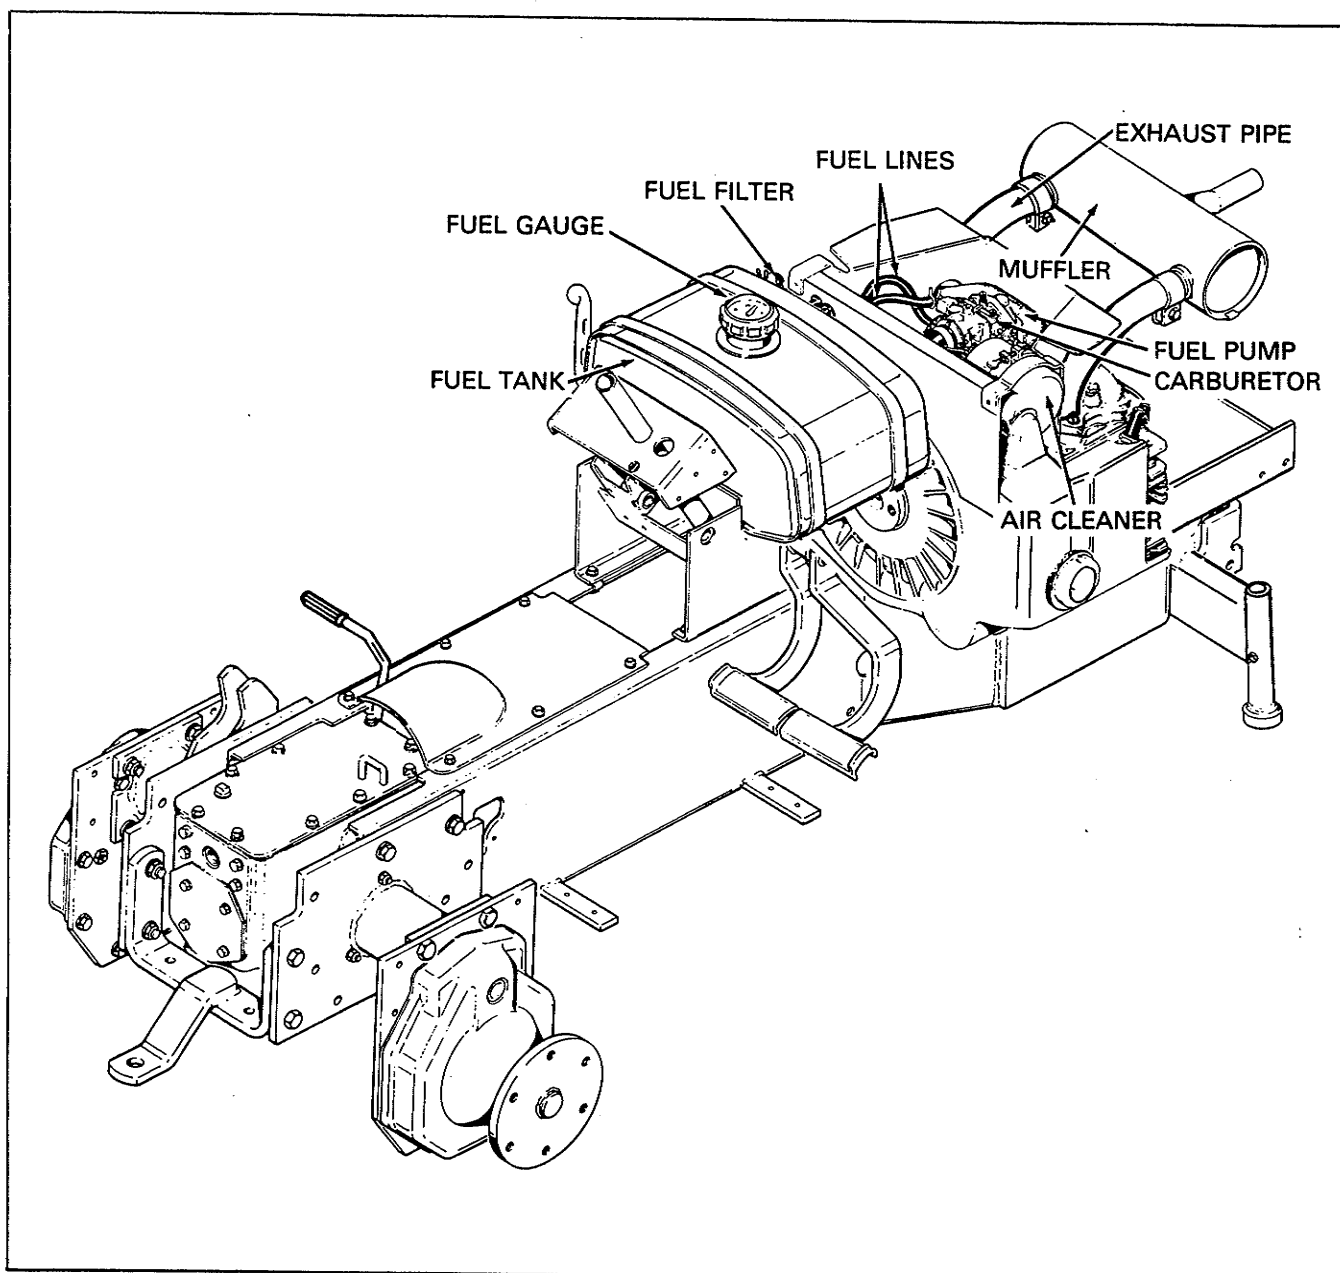

Figure 91. Fuel System (4041, Pow'r Max. 9020)
**FUEL SYSTEM****Description (Figure 91)**